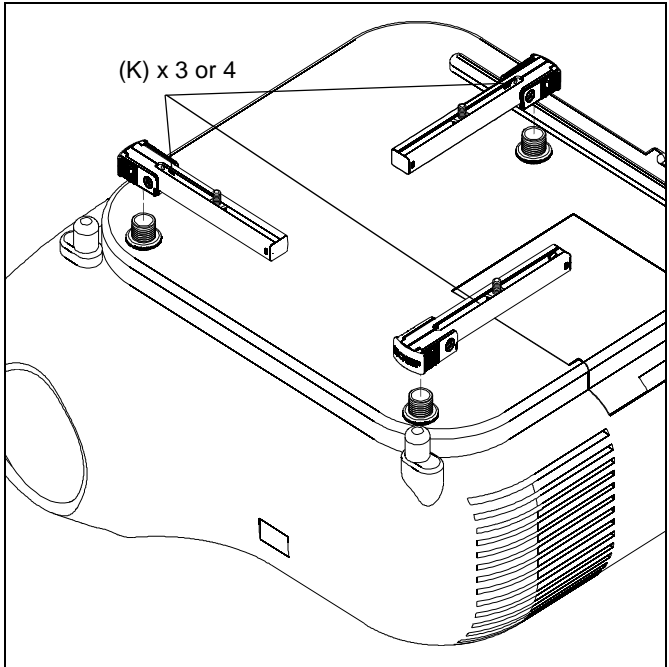

**Figure 14**
2. Insert screws through screw adapters with height-adjustable nuts and into projector holes. (See Figure 14)
**NOTE:** Only use washers (T) if using N or P screws to attach screw adapters to projector.